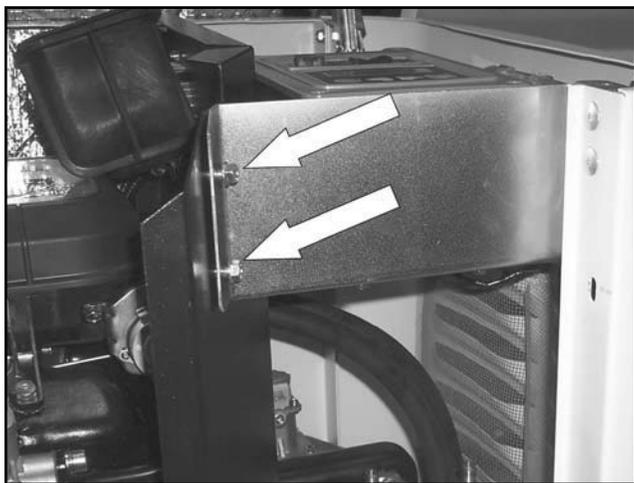

Figure 11.
- Unbolt enclosure side panel mounting bracket: Using a 10mm socket remove the two bolts from the enclosure side panel mounting bracket. See Figure 11.